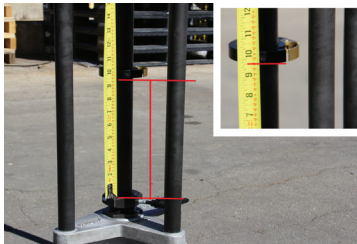

Figure 3
A) Install stop collar onto the saw mandrel. Set the bottom of the stop collar to 9.5” from the top of the packing nut assembly (see Figure 3). Tighten stop collar.